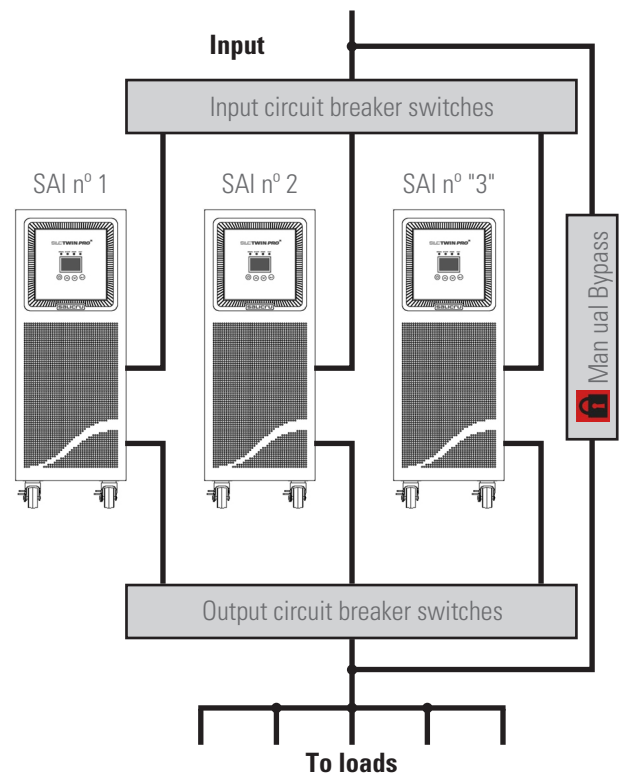

Fig. 23. Parallel UPS installation with a switchgear panel with manual bypass.
- Parallel installations must have a switchgear panel with separate input and output protections for each UPS, apart from a manual bypass switch with mechanical lock, see Fig. 23. For more information, about the descriptions referred to the manual bypass and the indications of the «Recommended installation» see section 5.1.5.4.
- Fig. 23 shows a conceptual switchgear panel with manual bypass for a parallel system, which illustrates only one equipment by adapting the quantity of switches.